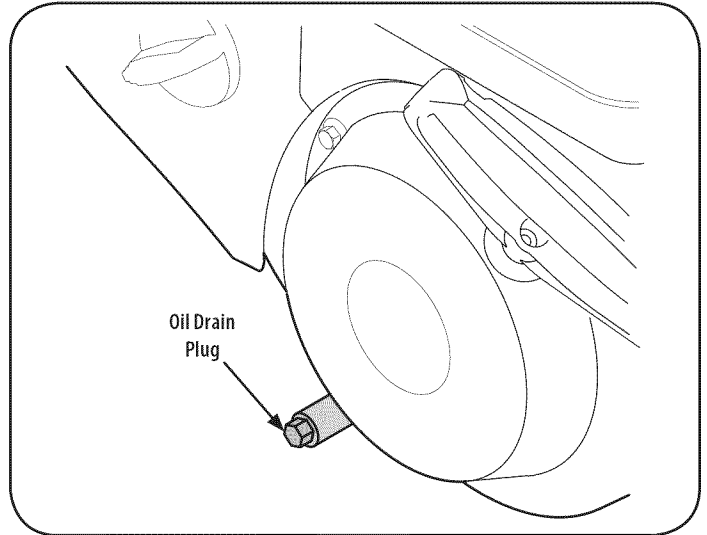

Figure 14
3. Remove oil drain plug. See Figure 14.